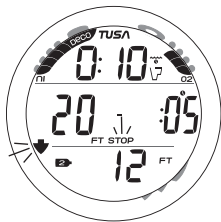

Fig. 83 - CV MAIN
**CV Main**, information includes (Fig. 83) -